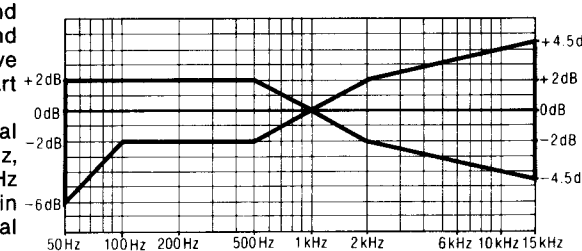

Fig. 17
8. Change test tape to CrO₂ reference blank test tape (QZZCRX), and record 1 kHz, 50 Hz, 100 Hz, 200 Hz, 500 Hz, 4 kHz, 8 kHz, 10 kHz and 15 kHz signals. Then, playback the signals and check if the curve is within the limits shown in the overall frequency response chart for CrO₂ tapes (fig. 17).
9. Place UNIT into metal tape mode and change test tape to metal reference blank test tape (QZZCRZ), and record 1 kHz, 50 Hz, 100 Hz, 200 Hz, 500 Hz, 4 kHz, 8 kHz, 10 kHz, 12.5 kHz and 15 kHz signals. Then, playback the signals and check if the curve is within the limits shown in the overall frequency response chart for metal tapes (fig. 17).